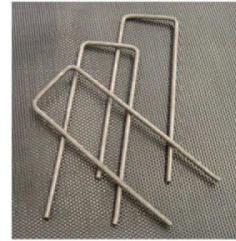

Figure 6: Securing Pin
- Secure Pyramat® 25 with pins in the IC trench (Figure 5). Pins should be U pins with a minimum length of 150 mm and shall be made of mild steel with a 4 mm minimum diameter (Figure 6). Longer pins may be required for looser soils. Heavier metal stakes may be required in rocky soils. Suggested placement of pins for the IC trench is along the bottom of the trench with pins on 300 mm. Pins should also be installed on panel edge overlaps in the IC trench.